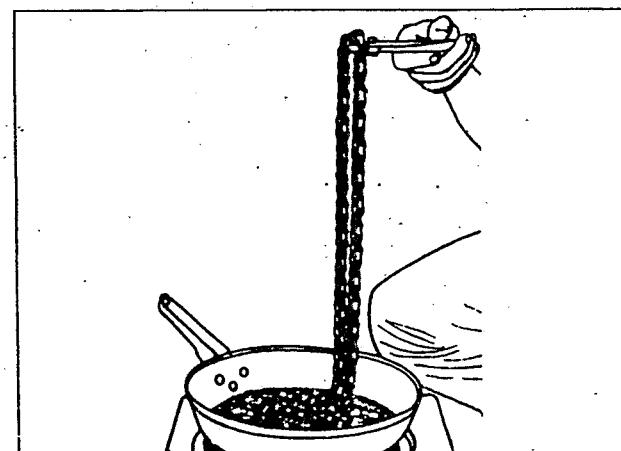

Fig 2.32
- Dip the chain in molten Servo Grease MP (fig 2.32). Remove the chain and allow it to cool before refitting. Ensure that the sprockets are clean.